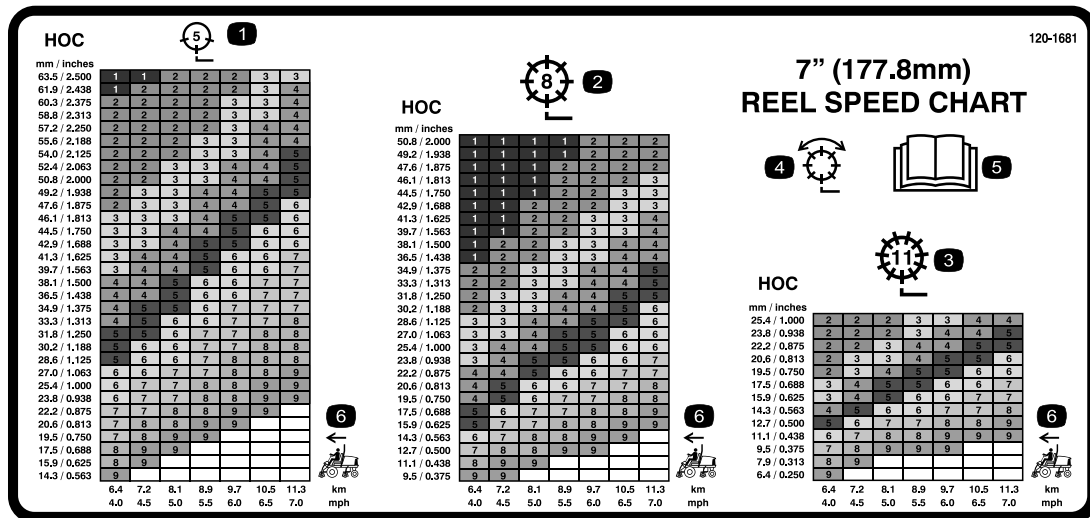

Figure 39
3. Using the appropriate graph on the decal (Figure 39) determine the proper reel speed setting.